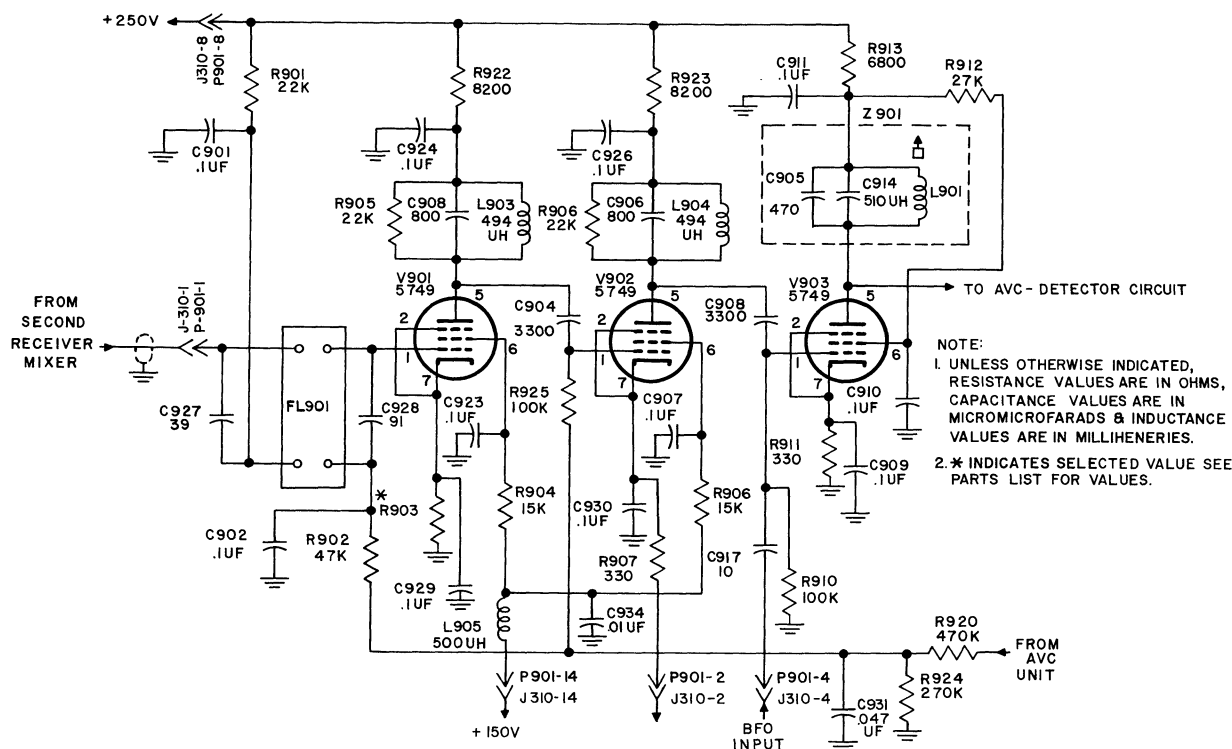

Figure 4-29. 250 Kc I-F Amplifier, Simplified Schematic Diagram
4.9.6.1 I-F AMPLIFIERS. Refer to figure 4-29. The plate circuit of second receiver mixer V1006, located